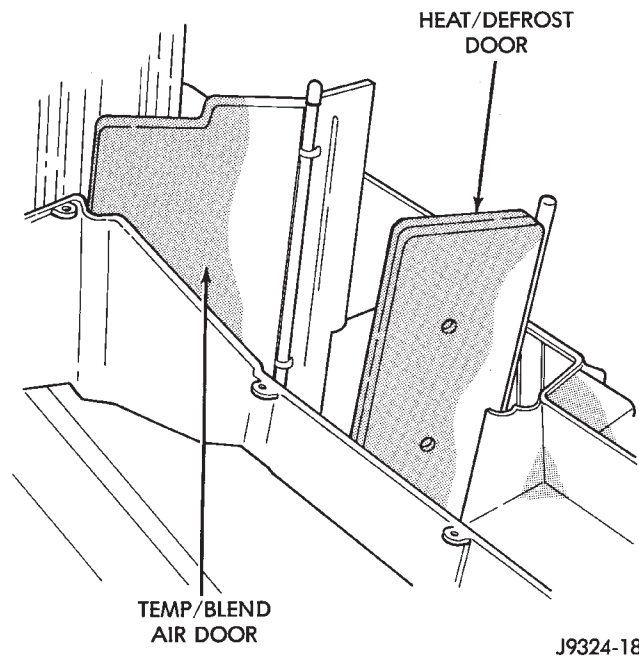

Fig. 25 Heat/Defrost Door
- (6) Remove the bottom half of the heater-A/C unit.
- (7) Remove the door (Fig. 25).